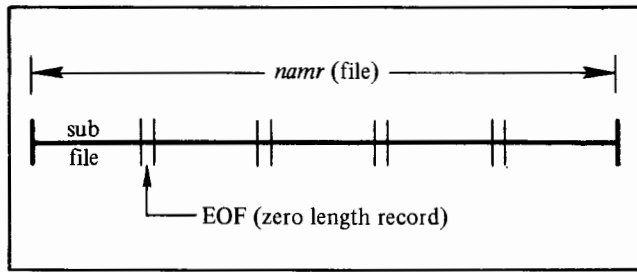

Figure 3-3. Sub-File Example
- #files* indicates the number of files or zero length records to be transferred from *namr1*. This parameter must be greater than 0 if supplied. Default for *#files* is as follows (refer to Figure 3-3 in Comments):